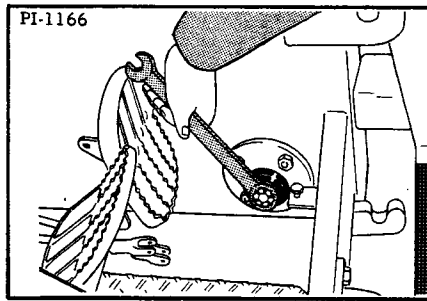

Fig. 68 Removing the Castle Nut
10. Remove the cotter pin from the castle nut and remove the castle nut which holds the axle in place (Figure 68). Remove the spacers and holding washers.
7. Turn the castle nut onto the end of the axle and tighten it until the bearings have a moderate preload (Figure 68).